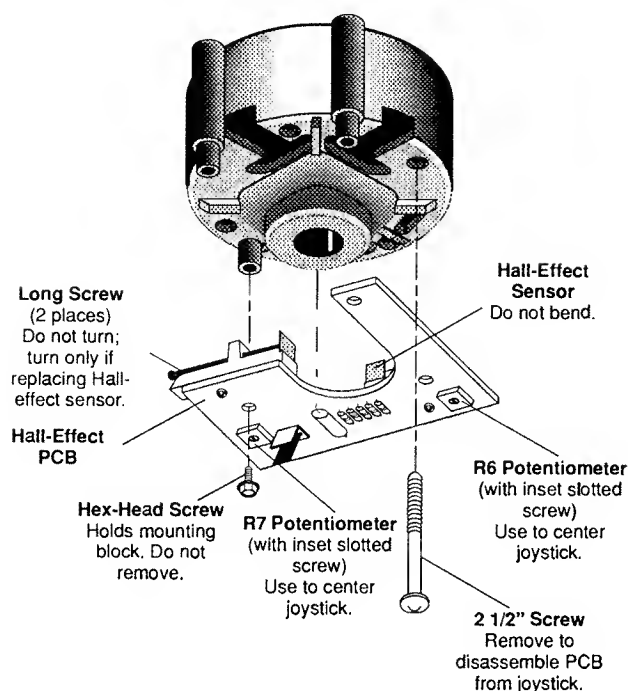

Figure 3-3 Parts of the Hall-Effect PCB
See Figure 3-3 if you are not sure which screws to turn or what the Hall-effect sensors look like.
The R7 potentiometer controls the horizontal value and the R6 potentiometer controls the vertical value. Turn the inset slotted screws on the potentiometers so the horizontal and vertical set-up values are equal or very close to 80. (See Figure 3-3.) Turning the screw clockwise increases the value.
*Adjust only the potentiometers. **Do not move the long screws** on the PCB. If you turn the long screws, you can destroy the Hall-effect sensors. See Figure 3-3 if you are not sure which screws to turn.*
***Do not turn the long screws** on the bottom of the PCB that touch the Hall-effect sensors. See Figure 3-3 if you are not sure which screws to turn.*
17. Before you install the PCB on the bottom of the positioner plate, check the two Hall-effect sensors to make sure they are not bent. (See Figure 3-3.) If they are bent, replace the PCB or the Hall-effect sensor.